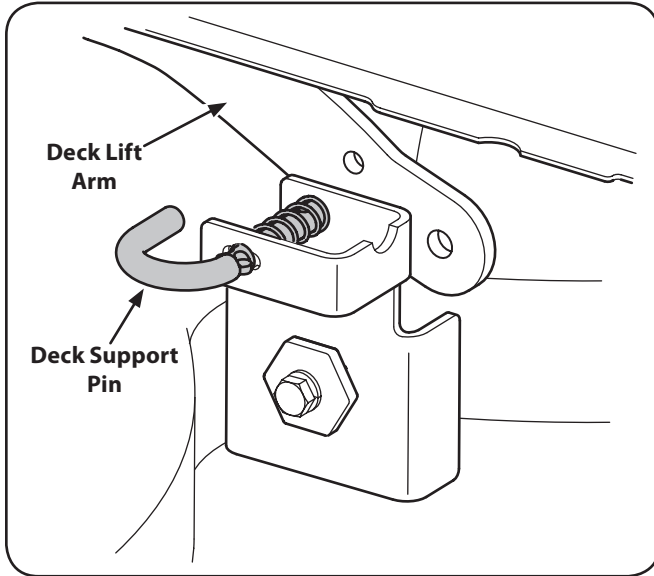

Figure 7-3
- Pull the deck support pin outward to release the deck from the deck lift arm. See Fig. 7-3.
- b. Reconnect the deck lift arms. See Fig. 7-3.